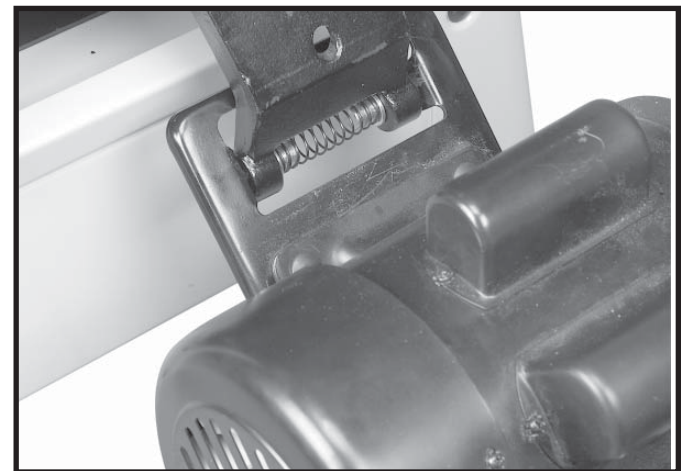

Fig. 34
6. Fig. 34, illustrates the motor and motor mounting plate assembled to the rear of the saw.